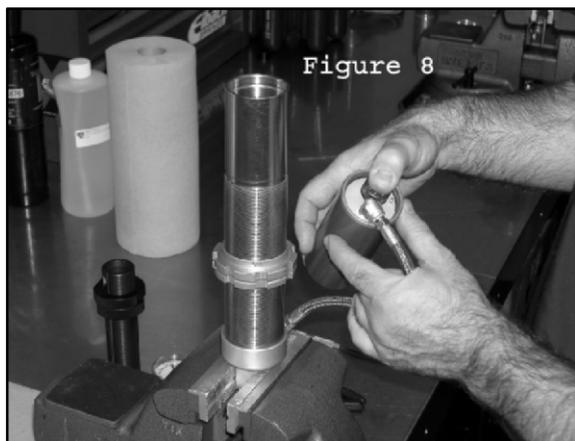

Figure 8
22. Push the compression damping (CD) housing into the reservoir tube to expose the wire retaining ring. Locate the end of the ring and push inward with fingertip. Remove retaining ring. A scribe or dental pick can also be used for this step, but use extreme caution not to scratch the bore of the reservoir tube. (Fig. 8)